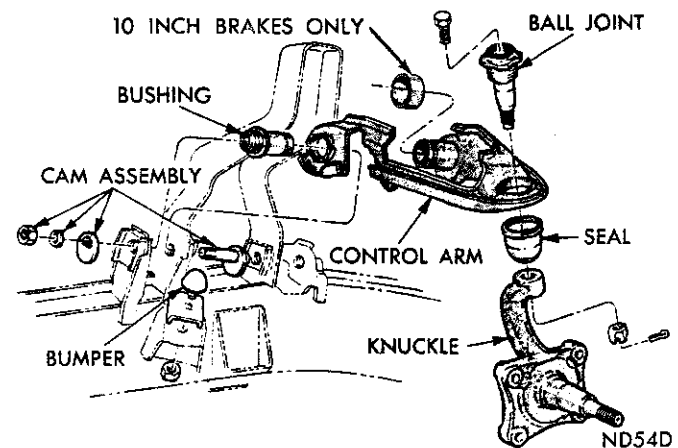

Fig. 16—Upper Control Arm (Dart)
UPPER CONTROL ARM (Figs. 16, 17)
attaching upper control arm and bushings (Figs. 16, 17), to support brackets. Lift control arm up and away from support.
(1) Slide control arm into position and install cam bolts, cams, washers and nuts (Figs. 16 and 17). Tighten nuts in preparation for final adjustments.
(2) Slide upper ball joint stud into position in steering knuckle and install nut. Tighten nut 100 foot-pounds, (Dart 55 foot-pounds). Install cotter pin and